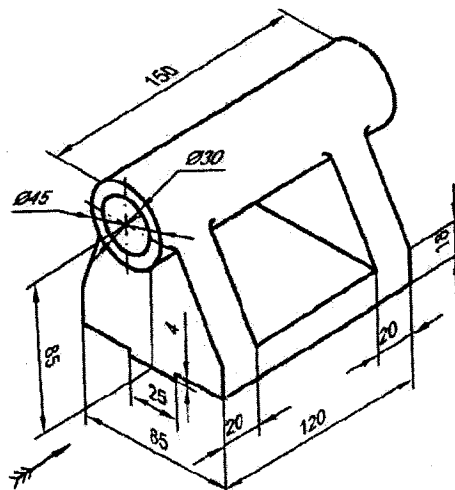

Figure: 2
10. Draw (a) Front View (b) Top View (c) Side View (Figure 2). All dimensions are in mm. [15]
10. Draw the isometric view of the casting whose front and top views are shown in figure 2 below. All dimensions shown in the figure 2 are in mm. [15]